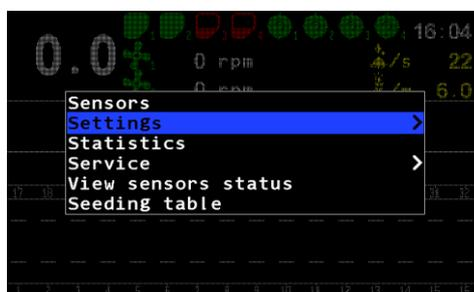

Figure 23
4. Use the buttons "Up/Down" to select the item "Settings" (see Figure 23) and press the "Menu" button.